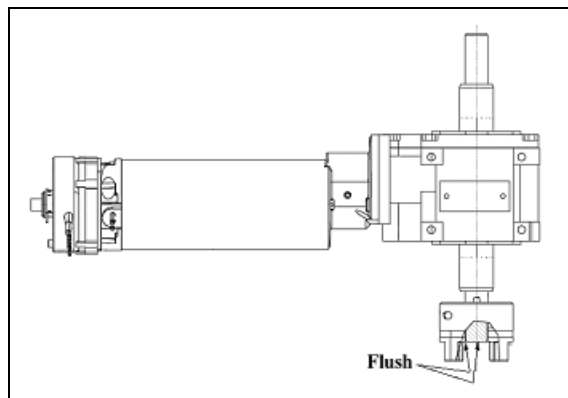

FIGURE 19 : CLAMPING HUB POSITION ON GEARBOX SHAFT
6. Install a clamping hub on one of the gearbox shaft (opposite side of gearbox mounting bolts) flush with the shaft extremity (FIGURE 19). Tighten the clamping screw to a torque of 18 lbf-ft.
7. Install the second clamping hub on the gearbox shaft. Position the clamping hubs so that they are flush with the shafts extremity (FIGURE 19).